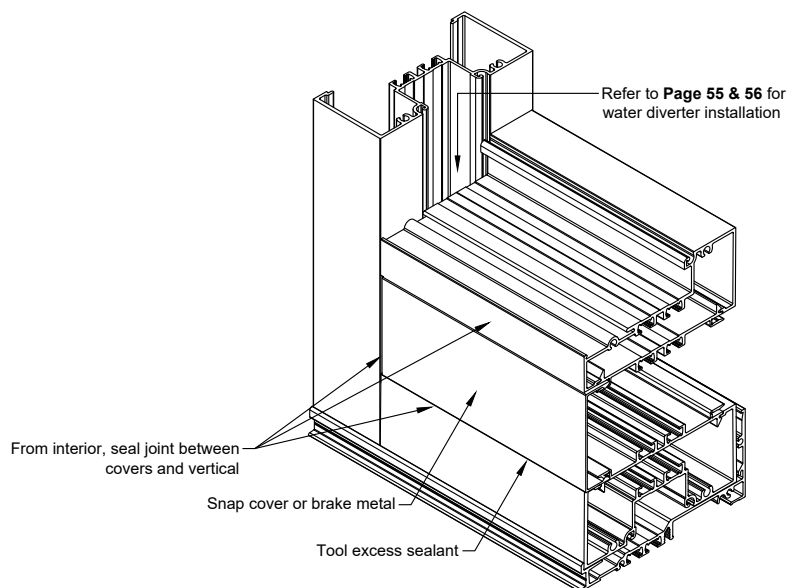

FIG. 2
- K. Attach a snap cover or brake metal to the exterior. **SEE Fig. 2.**